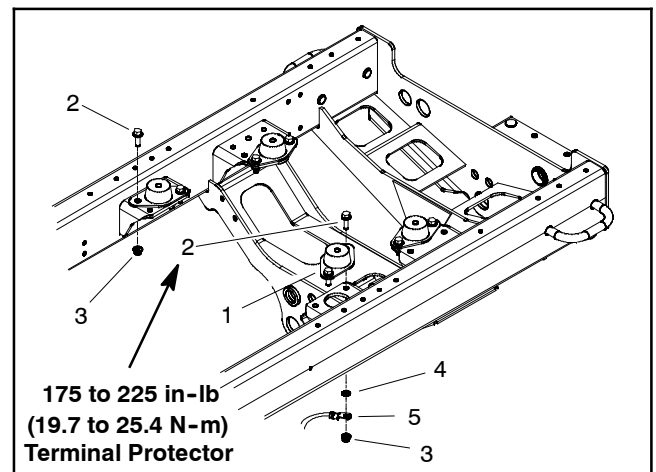

Figure 13
15. If necessary, remove engine mounts from machine frame (Fig. 13). Note that front engine mount on left side of machine has the negative battery cable ground connection secured with one of the mount bolts. If removed, make sure to locate lock washer that should be installed between the cable connection and the frame.
5. If removed, secure engine mounts to frame machine frame (Fig. 13). Make sure that negative battery cable ground connection is secured with lock washer between the cable connection and the frame if front engine mount on left side of machine was removed.